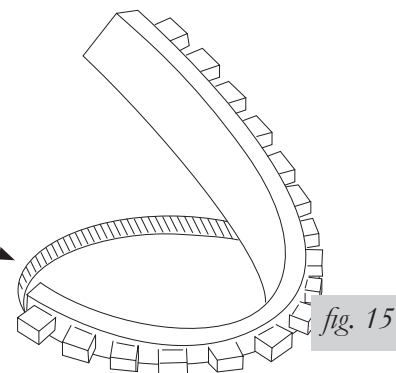

fig. 15
- b. In some cases, a hole may have to be drilled to allow access for the harness. Drill a 1" diameter hole and install the provided grommet (fig. 15). It will be necessary to seal any grommets or holes that have been cut, drilled or removed so as not to allow elements to enter the cab area of the vehicle.